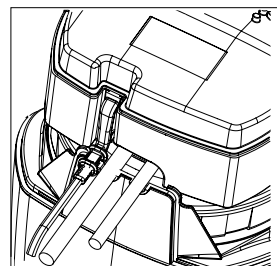

Fig. 19
11. Ensure the Electronic Module cord and strain relief are properly located in the cutout in the back to prevent the cord from being damaged (Fig. 19).